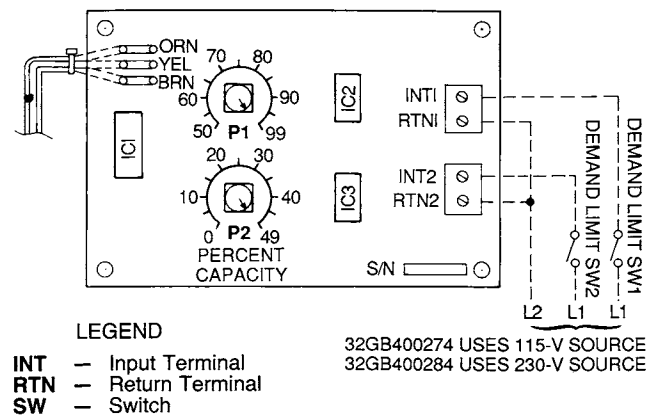

Fig. 2 - Control Power Connections
5. Connect the field input control power wires to the terminal strips marked INT1, RTN1 and INT2, RTN2 which are pressure-type connectors; strip the insulation from the wires before inserting. The connector can accept up to 12 AWG (American Wire Gage) (3.3 mm²) wire. SW1 and SW2 are field-supplied, normally open switches (toggle switches or relay contacts). See Fig. 2.